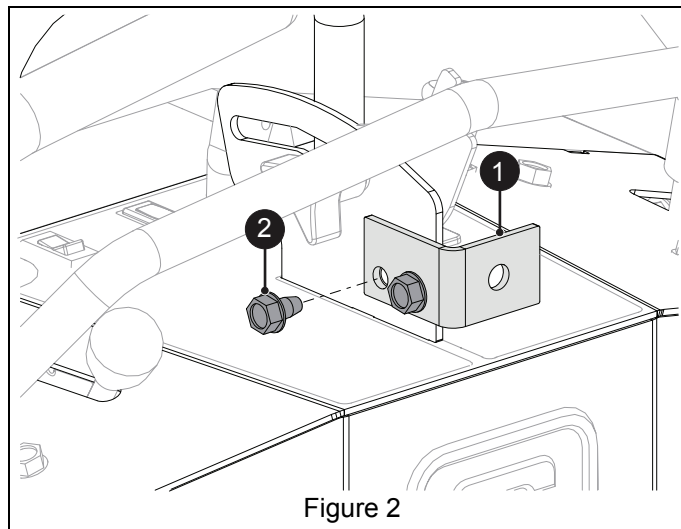

Figure 2
3. Mount light mounting bracket (item 1) to index bar bracket using two 5/16" x 1/2" tapping screws (item 2). See Figure 2.